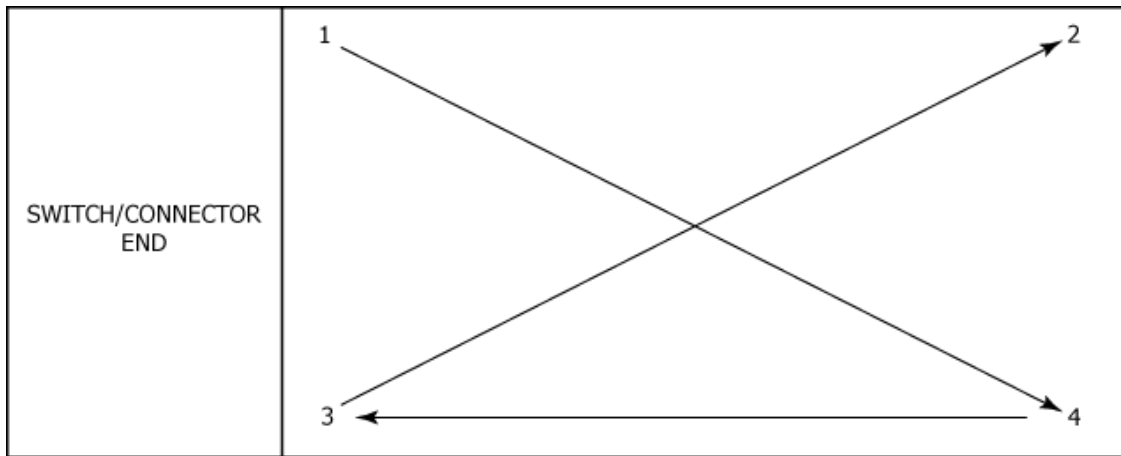

Figure 24 Battery Pack Screw Tightening Pattern
- 11) Tighten and torque the screws as shown in Figure 24. Torque to 6-8 lb-in (68-90 N•cm).